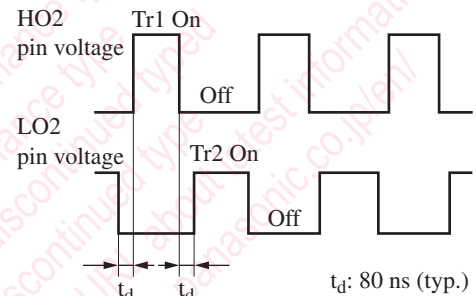

Figure 15
(1) PWM output voltage
- The PWM output voltage is supplied from HO2 pin (pin 22) and LO2 pin (pin 19) to drive FET Tr1 and Tr2 respectively. Both pin voltages are as shown in figure 15.
(2) Quiescent period
- As same as the case of voltage step-up, the PWM output voltages given from HO2 pin (pin 22) and LO2 (pin 19) are provided with the quiescent period t_d in which both become Off state as shown in figure 15. This is provided for the prevention of simultaneous turning on of Tr1 and Tr2.